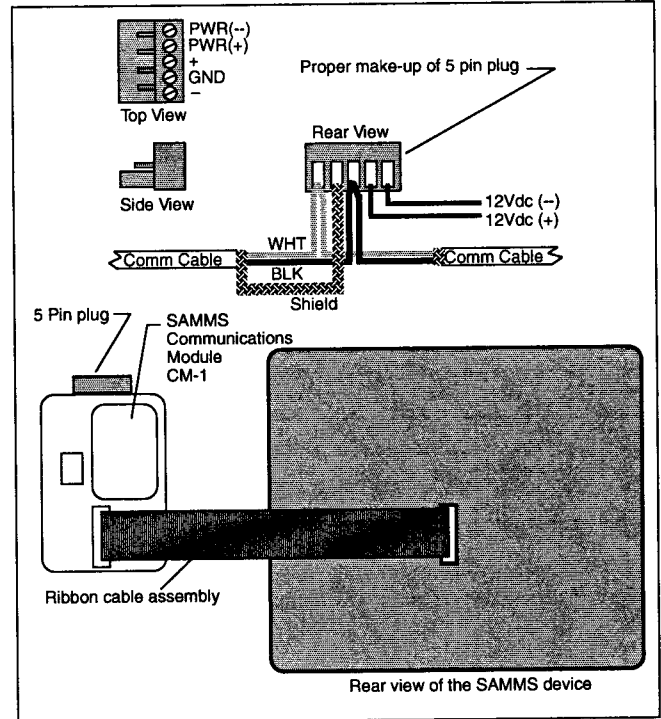

Figure 12. Connecting RS-485 Cable to a SAMMS Device
If you are testing a SAMMS device on a desktop, follow these steps to connect the device to the converter, while referring to Figures 12 and 13 in the next column:
7. Connect the CM-1 to the SAMMS device using the supplied ribbon cable as illustrated in Figures 12 and 13.